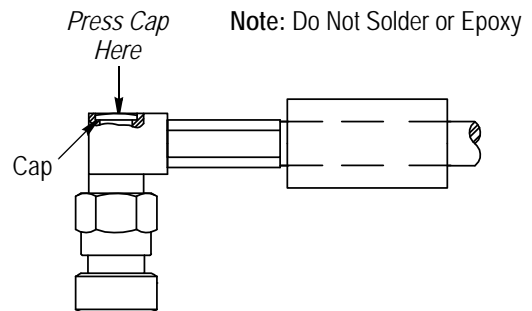

Figure 5
Manually press the cap into the opening at the back of the housing subassembly. See Figure 5.
- Removed solder from Figure 5